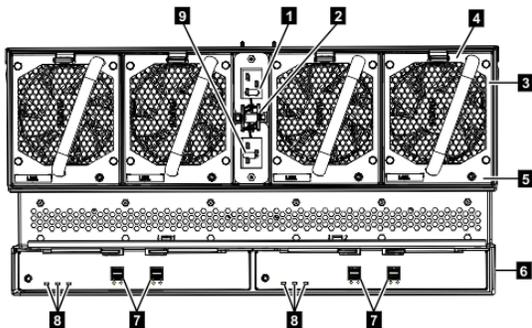

Figure 59. Features on the rear of the 5U expansion enclosure
3. Verify that the expansion enclosure and its components are operating as expected. On the back of the expansion enclosure, all four fans and the expansion canister indicators (3 and 8 in Figure 59 on page 99) become active when the power is connected.